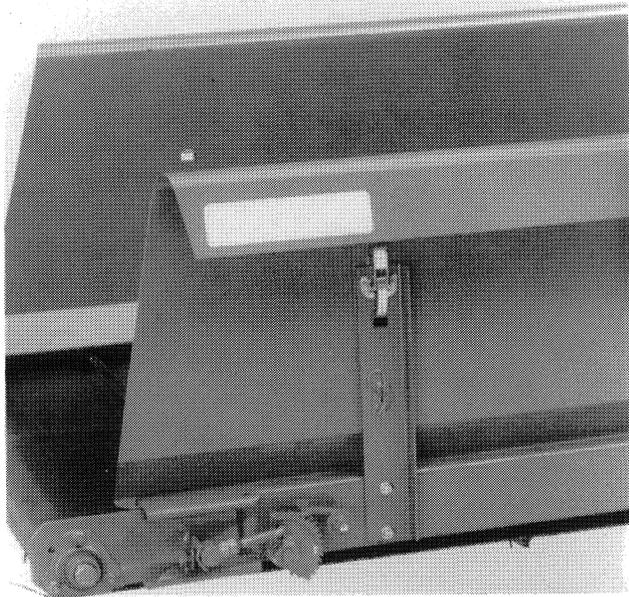

FIGURE 4
2. A design change was made removing the mounting pin from the vertical support as shown in Figure 4. The extension table shields have the mounting pin, and the support has a reinforced hole. Cotter pins will be used to retain the shields to the table supports.